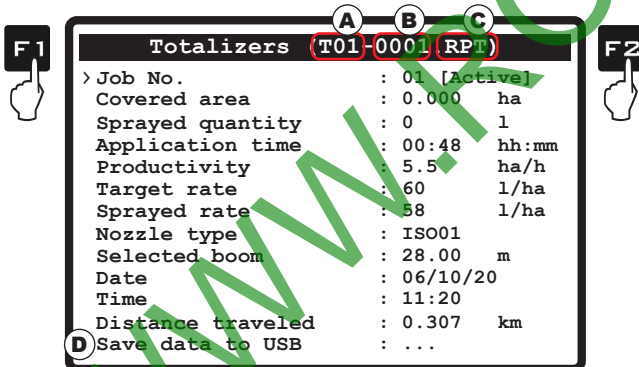

Fig. 66
- It is possible to save the totalizer reports on USB pendrive using the relevant function **Save data to USB** (Fig. 66).
- Select item **Job No.** (Fig. 66) and press **CLR**.